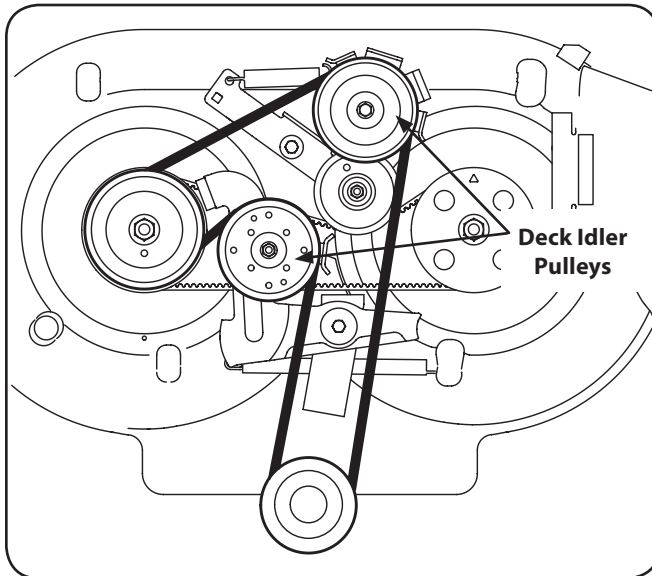

Figure 7-8
4. Loosen, but not remove, the nut and bolt which secures each deck idler pulley. See Fig. 7-8.
6. Route the new belt as illustrated in Fig. 7-8.